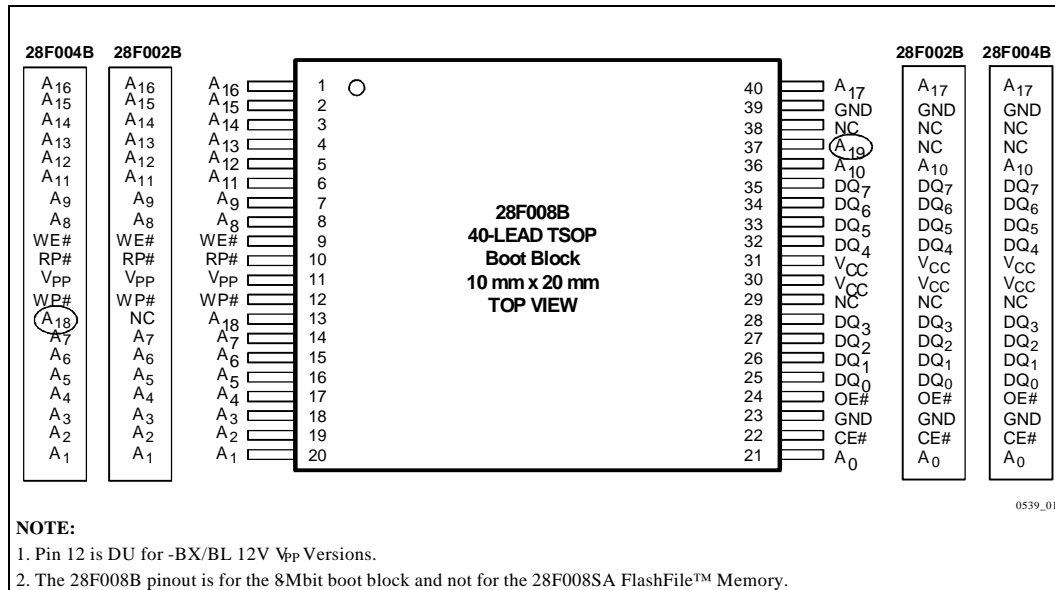
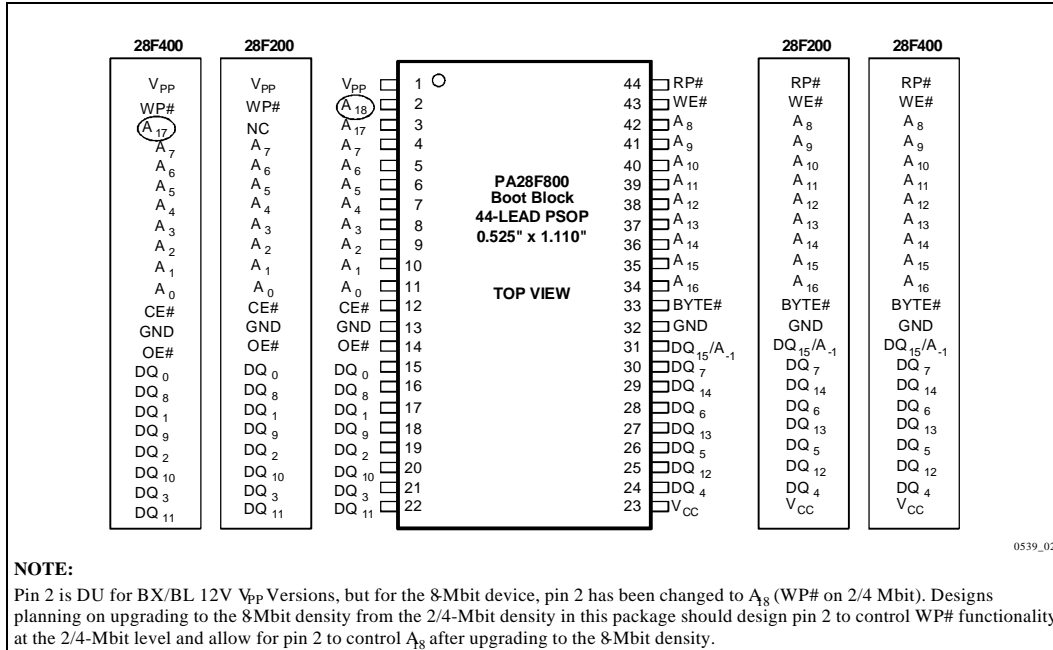
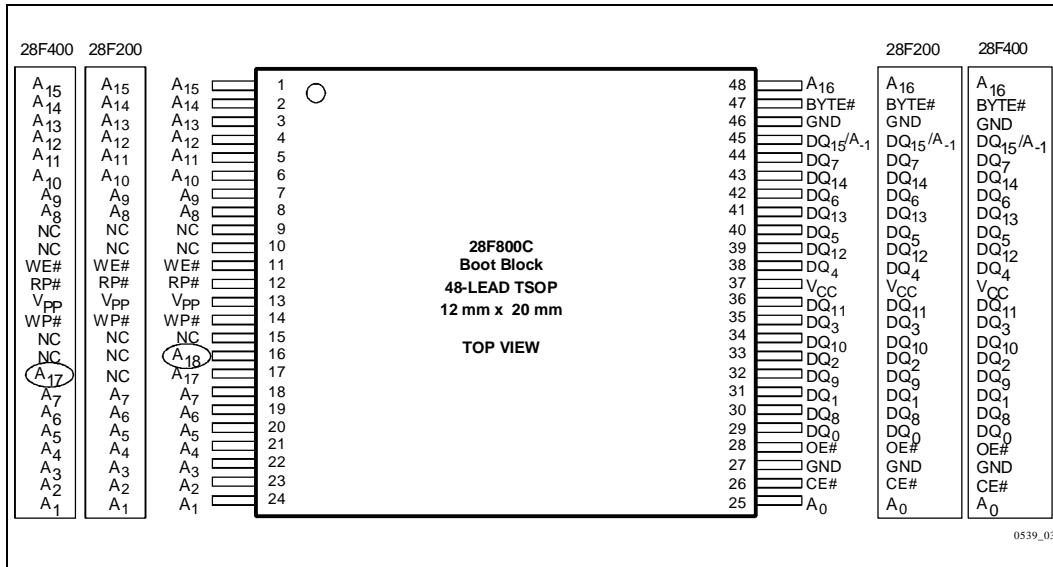

Figure 1. The 40-Lead TSOP Offers the Smallest Form Factor for Space-Constrained Applications
Figure 2. The 44-Lead PSOP Offers a Convenient Upgrade from JEDEC ROM Standards
Figure 3. The 48-Lead TSOP Offers the Smallest Form Factor for x16 Operation
- WP# pin has replaced DU (Don’t Use) pin #12 in the 40-lead TSOP package. In the 44-lead PSOP, DU pin #2 is replaced with A₁₈ (see Figure 1 and Section 3.4 for details). Connect the WP# pin to control signal or to V_{CC} or GND (in this case, a logic-level signal can be placed on DU pin #12 for 40-lead TSOP). See Tables 2 and 9 to see how the WP# pin works.
To upgrade from lower density SmartVoltage boot block products, the similar pinouts in the 40-lead and 48-lead TSOP packages provide easy upgrades by adding extra address lines (see Figures 1 and 3). In the 44-lead TSOP, the WP# pin on the 2-Mbit and 4-Mbit BV parts becomes A₁₈, removing the capability to unlock the boot block with a logic-level signal in this package **only**. The boot block can still be unlocked with 12V on RP# (see Figure 2 and Section 3.4 for details).
The 28F800 products are available in the 44-lead PSOP (Plastic Small Outline) package (a ROM/EEPROM-compatible pinout) and the 48-lead TSOP (Thin Small Outline, 1.2 mm thick) package as shown in Figures 2, and 3, respectively. The 28F800 is not available in 56-lead TSOP. The 28F008B products are available in the 40-lead TSOP package as shown in Figure 1. Refer to the DC Characteristics Table, Section 5.2 (commercial temperature) and Section 6.2 (extended temperature), for complete current and voltage specifications. Refer to the AC Characteristics Table, Section 5.3 (commercial temperature) and Section 6.3 (extended temperature), for read, write and erase performance specifications.
The 28F008B 40-lead TSOP pinout for space-constrained designs is shown in Figure 1. For designs that require x16 operation but have space concerns, refer to the 48-lead pinout in Figure 3. The 28F800 44-lead PSOP pinout follows the industry-standard ROM/EPROM pinout, as shown in Figure 2.